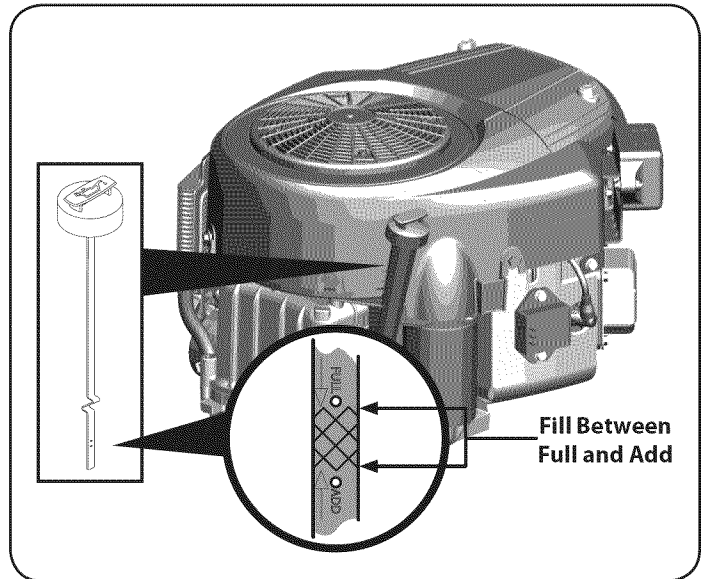

Figure 10
2. Remove the oil filler cap/dipstick and wipe the dipstick clean. See Figure 10.